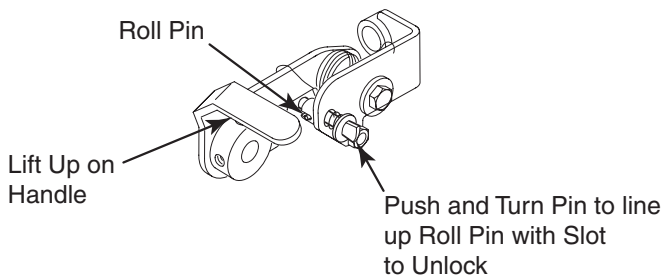

Figure 3-1. Unlocking the Stripe Roller
1. To unlock the Striper from the transport position, lift up slightly on the handle and turn the lock pin until the small roll pin lines up with the slot. See Figure 3-1.